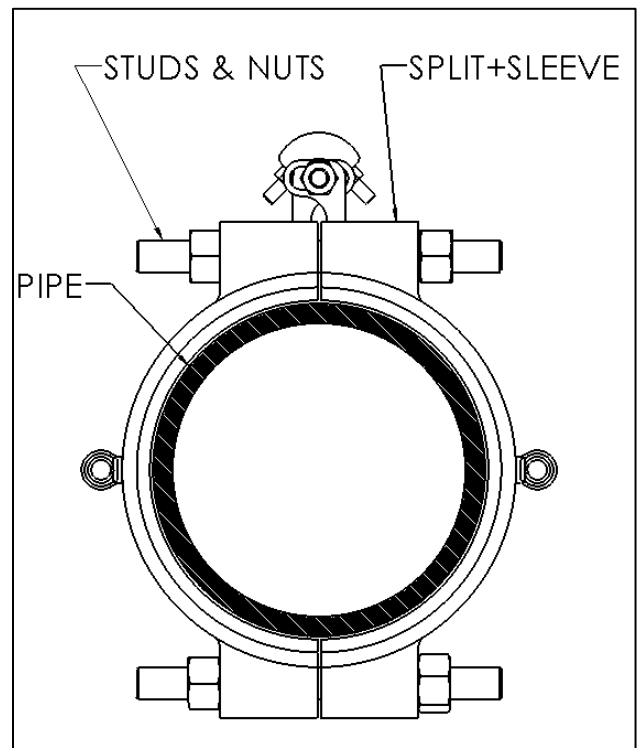

Figure 13
6. Once the fitting is wrapped around the pipe, insert the studs through the bolt holes and thread on the nuts as shown in Figure 13. Proceed to tighten the studs and nuts per these installation instructions.